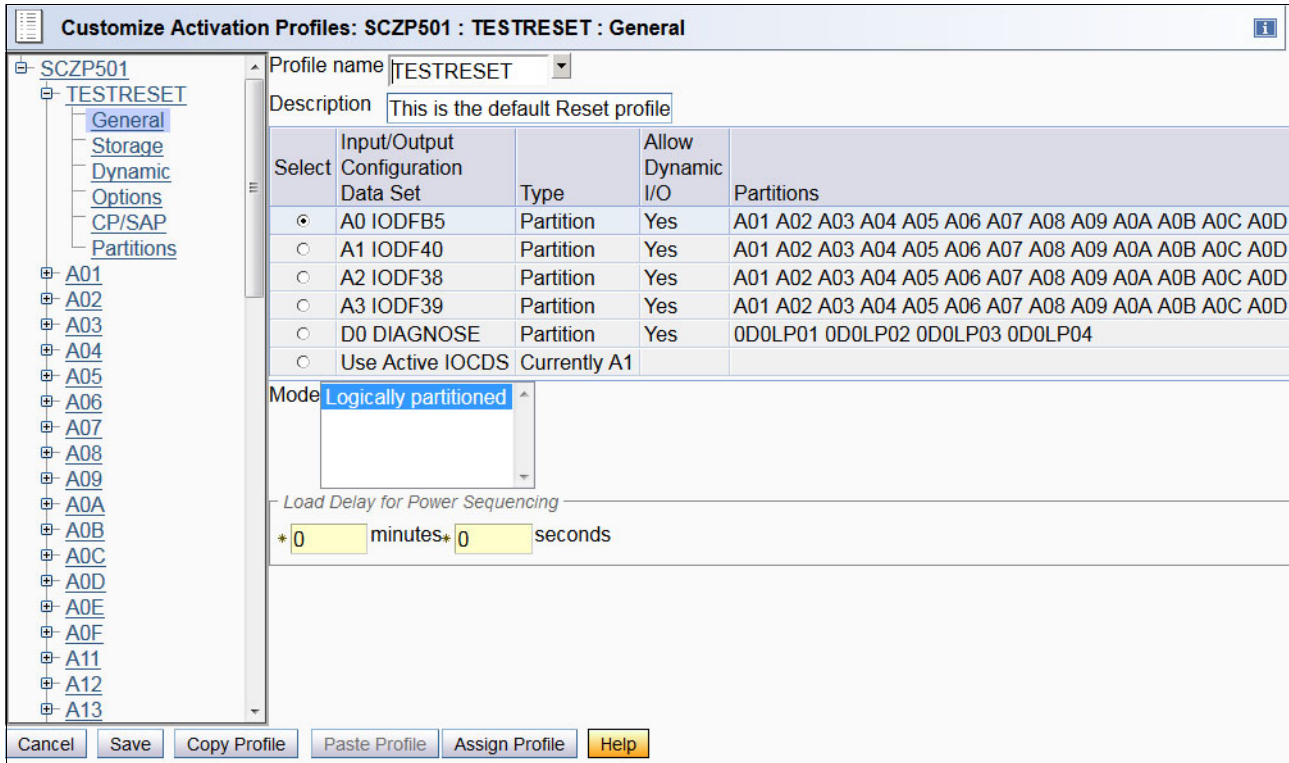

Figure 6-144 HMC - Reset and Image profile list
11. Note the list of LPARs that were retrieved and built based on the LPARs that were defined in the selected IOCDS. Click **Save** (Figure 6-144).